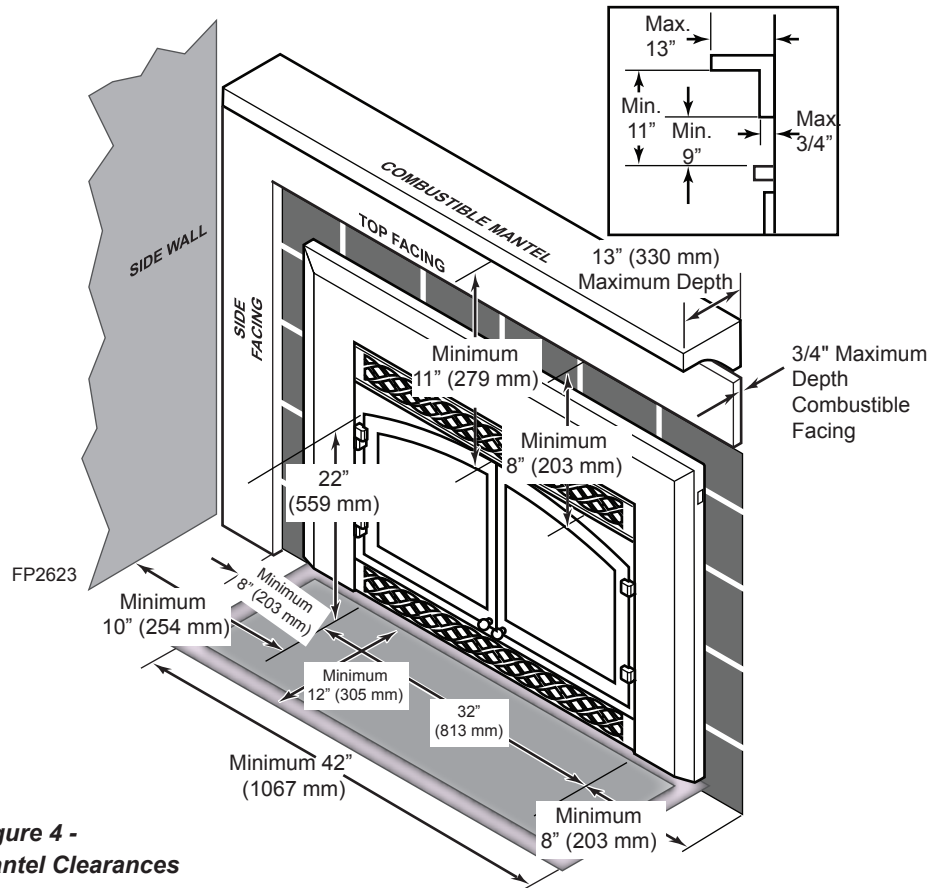

Figure 4 - Mantel Clearances
- Minimum clearances to combustibles, such as mantels, must be maintained. *Refer to Pages 8 and 9, Figures 4 and 5.*
WARNING	<p>The dimensions shown on Pages 8 and 9, Figures 4 and 5, are minimum clearances to maintain when installing this heater. Follow these instructions carefully to ensure safe installation. Failure to follow instructions exactly can create a fire hazard.</p>